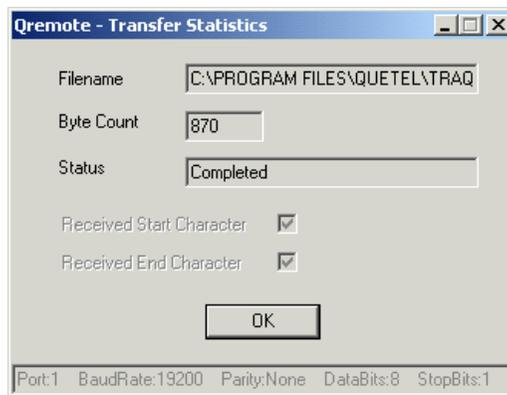

Figure 23. Successful upload
14. If successful you will see the status change to Completed as shown in Figure 23: